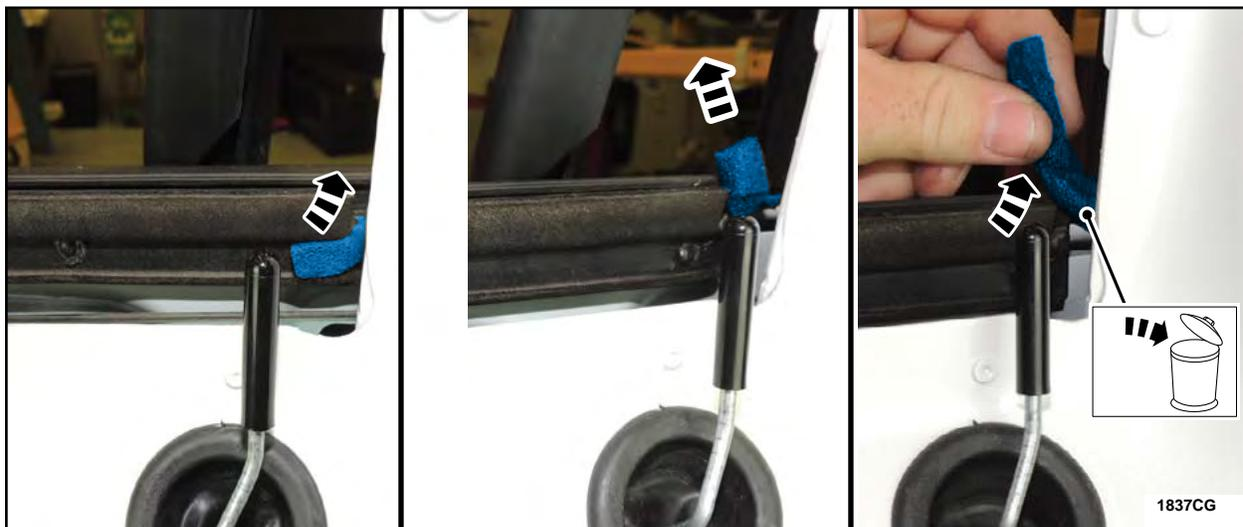

FIGURE 18
7. If present, remove and discard existing foam on the driver and passenger side outer belt moulding (also known as upper belt moulding) at this location. See Figure 18.